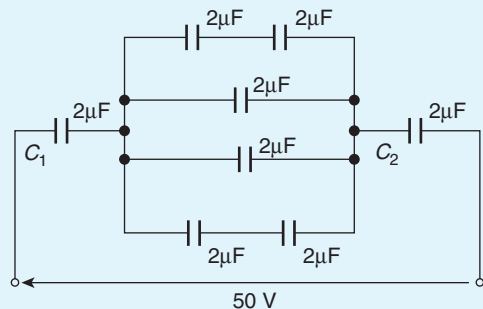

Figure 6.13
- For the circuit shown in Fig. 6.13, determine (a) the total circuit capacitance, (b) the total energy in the circuit, and (c) the charges in the capacitors shown as  $C_1$  and  $C_2$